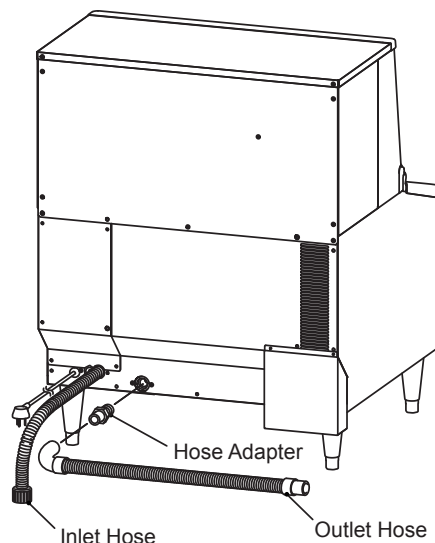

Fig. 3
2) Wrap P.T.F.E. tape around the hose adapter fitting, and screw the hose adapter into the drain outlet of the icemaker. Hand tighten grey flexible outlet hose (accessory) onto the hose adapter as indicated (Fig. 3). The pipe can be cut to length as necessary to suit position of main drain. To prevent water leaks, secure the outlet hose to the drain outlet by using a hose band.